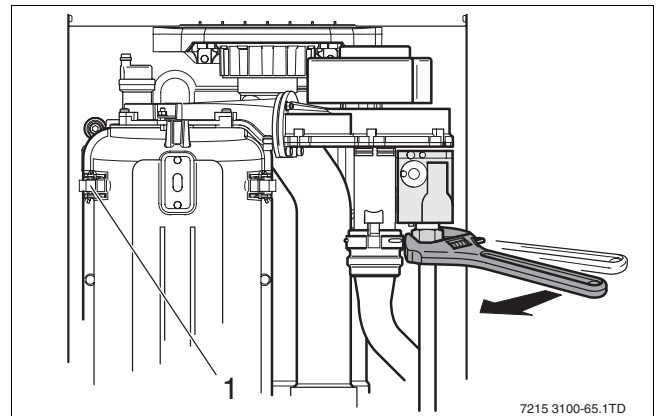

Fig. 65 Loosen gas connection
- Loosen the gas connection between the gas supply and the gas air unit (→ fig. 65).
- Now the front cover of the heat exchanger can be removed by opening the latches (→ fig. 65, item 1).